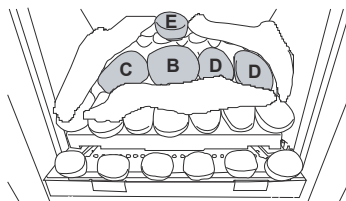
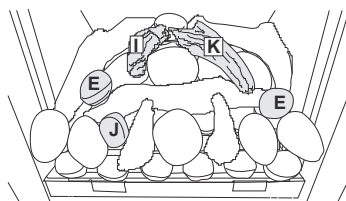

Figure 38
Figure 40
6. Continue placing the pebbles and driftwood as shown in **Figure 38** to **Figure 40**.